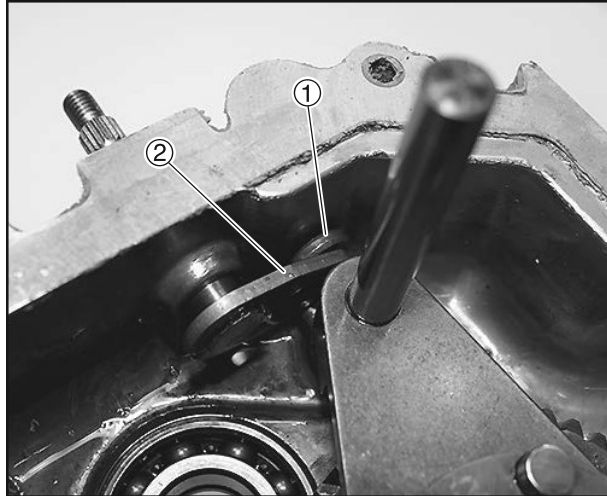

Figure 6-87
3. Install the shift fork and shift collar onto the countershaft making sure that the roll pin (Figure 6-87, (1)) on the shift fork shaft is in the groove on the shifter lever (Figure 6-87, (2)).